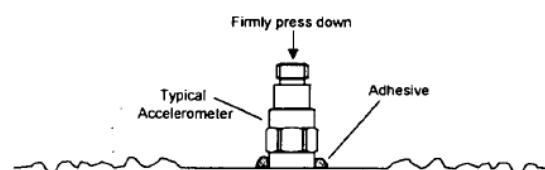

Figure 8. Direct Adhesive Mounting
**STEP 2:** Place a small portion of adhesive on the underside of the sensor. Firmly press down on the top of the assembly to displace any adhesive. Be aware that excessive amounts of adhesive can make sensor removal difficult. See Figure 8.